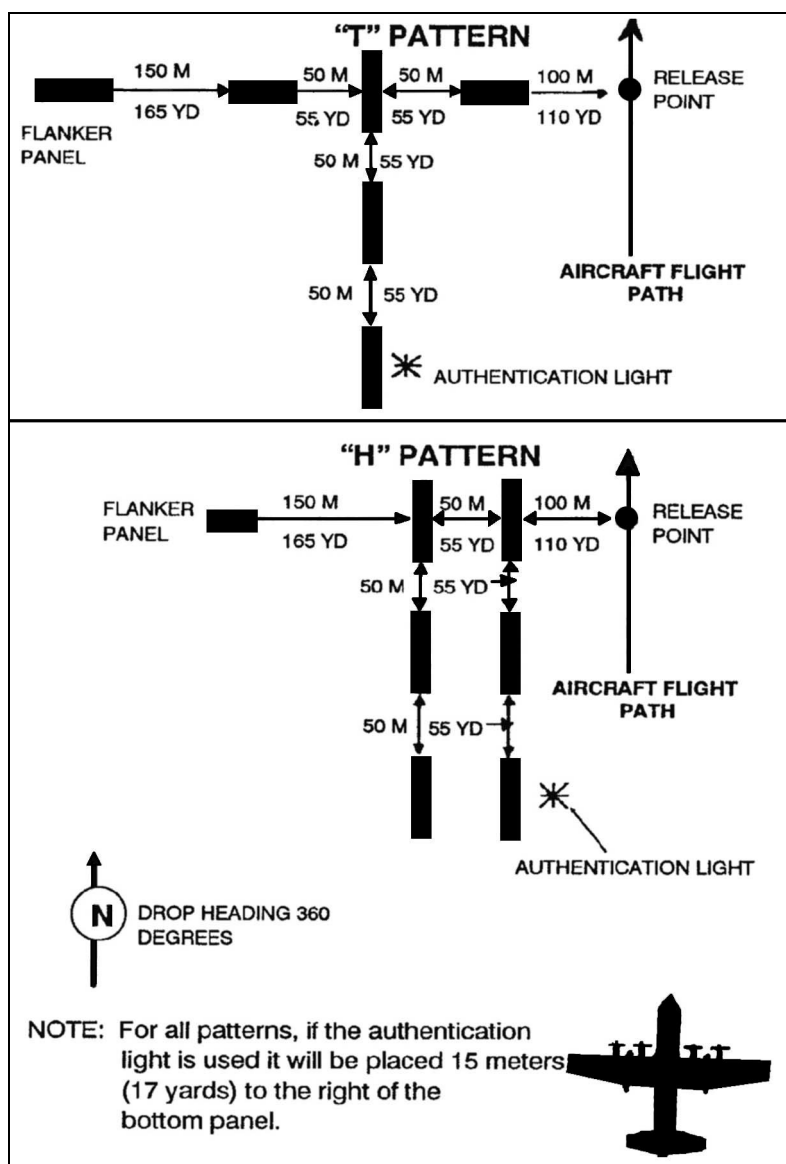

Figure 6-8. Panel emplacement.
b. **VS-17 Panels.** Figure 6-8, page 6-22, shows panel emplacement for “H” and “T” patterns.